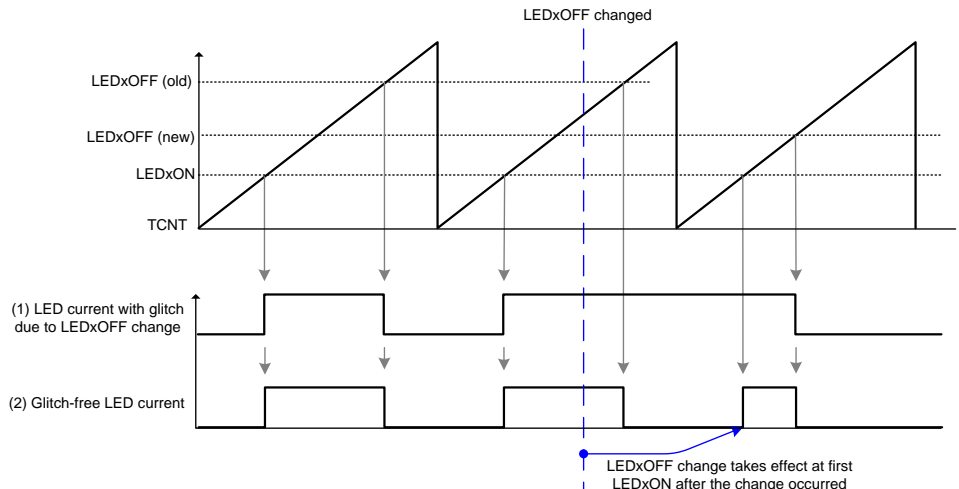

Figure 21. Glitch-Free LED Dimming Operation
When LEDxON and LEDxOFF are both set to the same value, the device interprets the setting as an LED off condition. This is equivalent to clearing the ENON bit for that particular LED. The next time TCNT reaches the common LEDxON and LEDxOFF value, the device ignores LEDxON and the LED turns off (if it was on) and remains off until the device writes LEDxON and/or LEDxOFF and updates each with a different value. More specifically, the LEDOFF comparison takes precedence over the LEDON comparison. Figure 21 illustrates an update example. Case (1) shows the resulting single PWM cycle on time that would occur if the writing of the registers were not handled through a temporary register. Case (2) shows the functionality of the TPS92661, where the register update is controlled, eliminating a false conduction cycle.